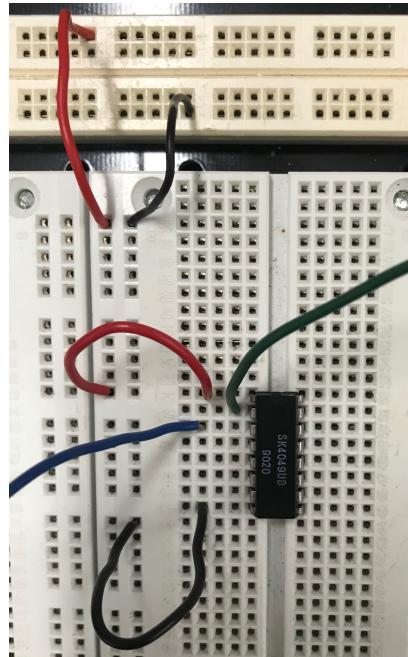

Figure 10: Wiring for the 4049 Hex Inverter chip
The Proto-Board is designed to make wiring of DIP integrated circuits convenient. Figure 10 shows a 4049 chip wired on the protoboard. Notice how the chip goes across the vertical channel between the wide vertical columns. Recall that the holes in these wide vertical columns are connected horizontally. Thus, this configuration provides a convenient way to connect to the input and output pins of the chips.
7. Being careful that that pins fit precisely in the holes, place a 4049 chip on your Proto-Board and wire it as shown in Figure 10. Use a Logic Switch as the input (blue wire coming in from left) and a Logic Indicator as the output (green wire going out to right). **Have the instructor inspect your circuit when it is complete and before turning on the Proto-Board power.**